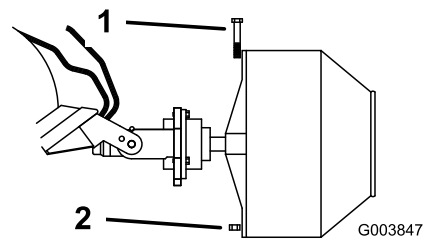

Figure 5
5. Secure the bowl to the drive head with the bolt and nut supplied with the auger drive head (Figure 5).
4. Remove the bolt and nut securing the bowl to the drive head (Figure 5).